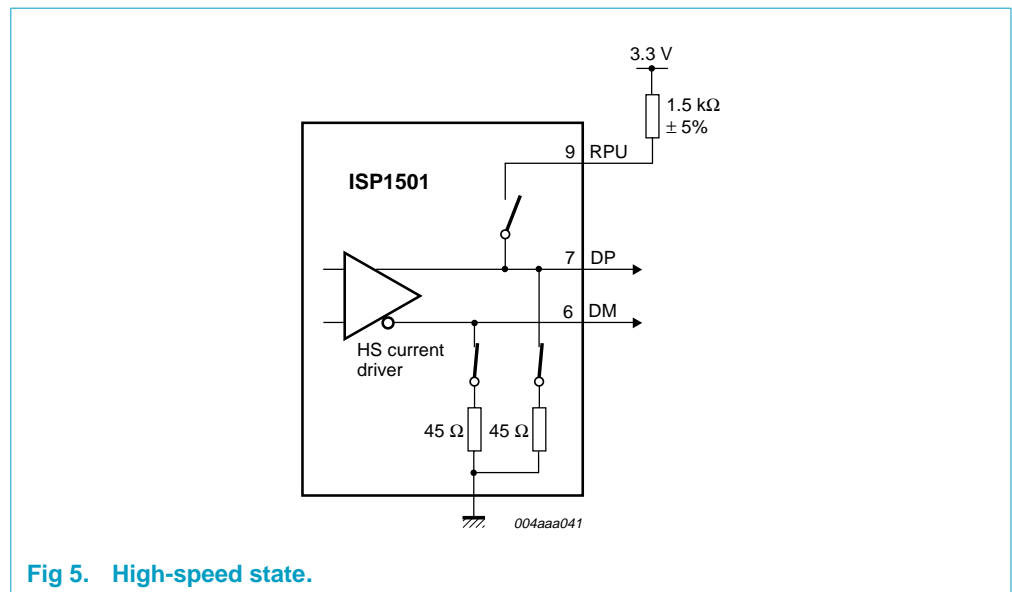

Fig 5. High-speed state.
8.2.3 High-speed (HS) state
In the high-speed (HS) state, internal  $45\ \Omega$  resistors on the DP and DM lines are connected to the ground. The pull-up resistor is disconnected. The HS transceiver is enabled, and the parallel interface and the HS-handshake signals are used (see Figure 5).